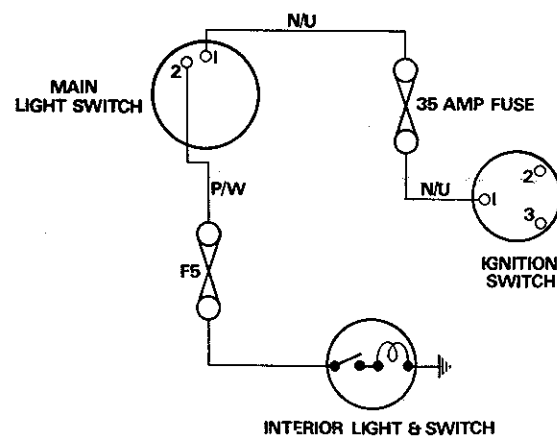

Fig. 8
29. The interior light is supplied via position 1 of the ignition switch and passes through positions 1 and 2 of the main light switch. A fuse is located between the two switches and the circuit is completed via fuse 5 to the light. See fig. 8.